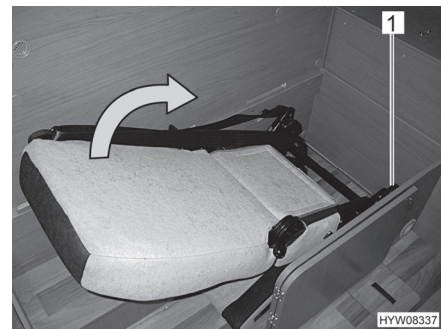

Fig. 28 Folding out the additional seat 2
- Press the lever (Fig. 28,1) down and hold it.